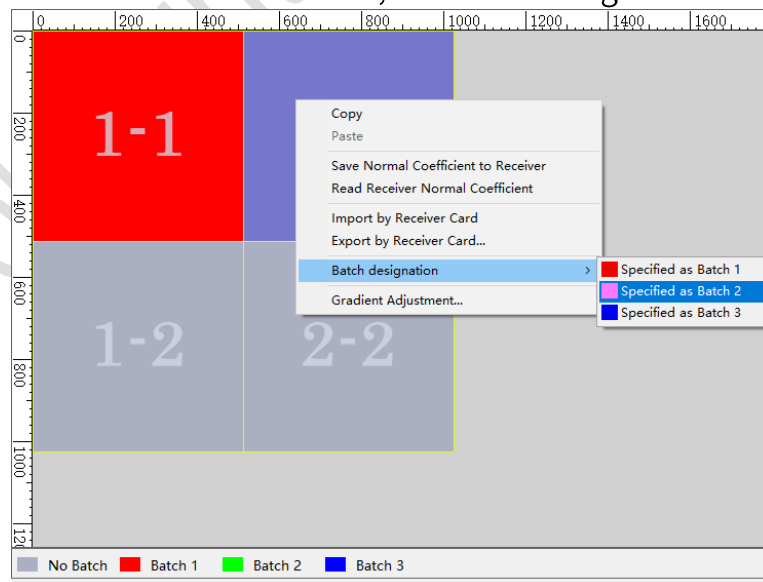

Fig 8.3.7 Batch designation
- **Step 2:** Close the **Batch Adjustment Settings** dialog box. Then, select a receiver card, right-click and select **Batch designation** to perform batch designation on the selected card, as shown in Figure 8.3.7.